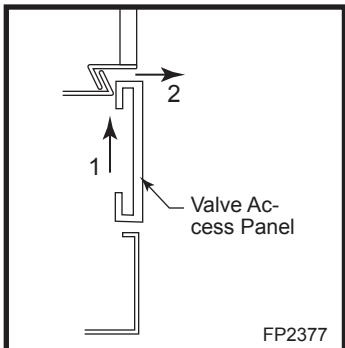

Fig. 61 Remove lower panel.
The valve access panel is removed by lifting the panel vertically and pulling it away from the appliance. (Fig. 61)
- Remove the lower panel door. (Fig. 61)